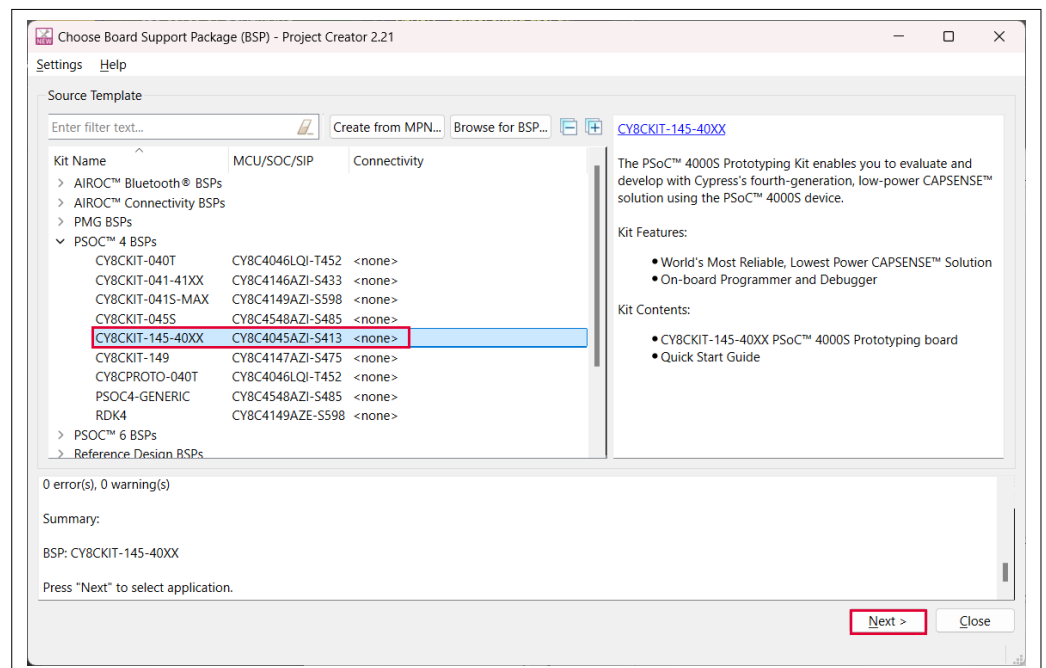

Figure 11 Creating a new application: Choose Board Support Package
- b. In the **Choose Board Support Package (BSP) - Project Creator 2.21** window, expand PSOC™ 4 BSPs, select CY8CKIT-145-40XX, and click **Next**, as shown in Figure 11